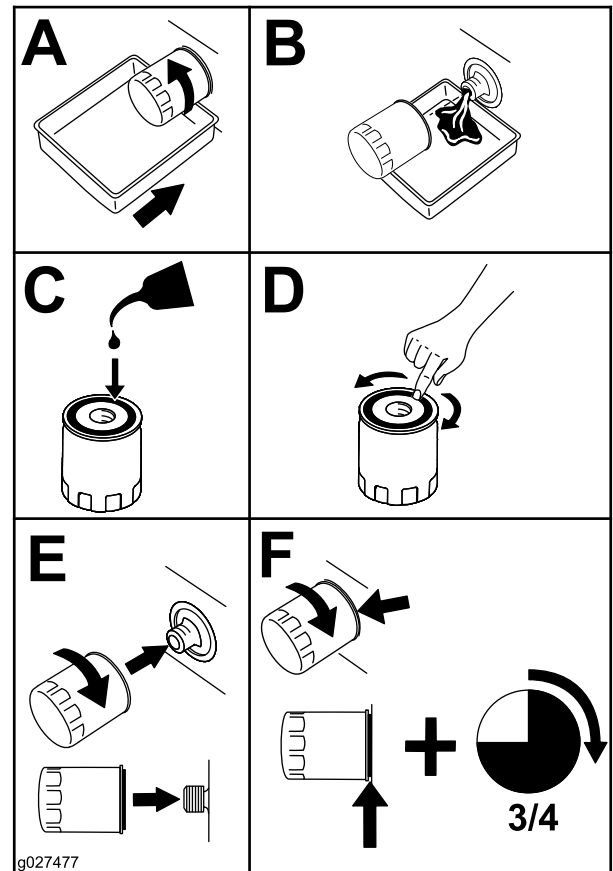

Figure 56
2. Change the engine-oil filter (Figure 56).